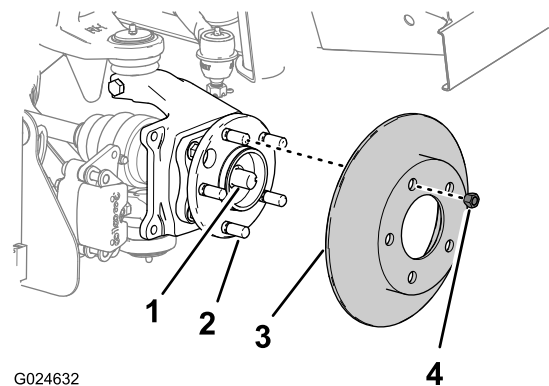

Figure 34
2. Slide the rotor over the studs until the rotor is fully seated against the flange of the hub (Figure 34).